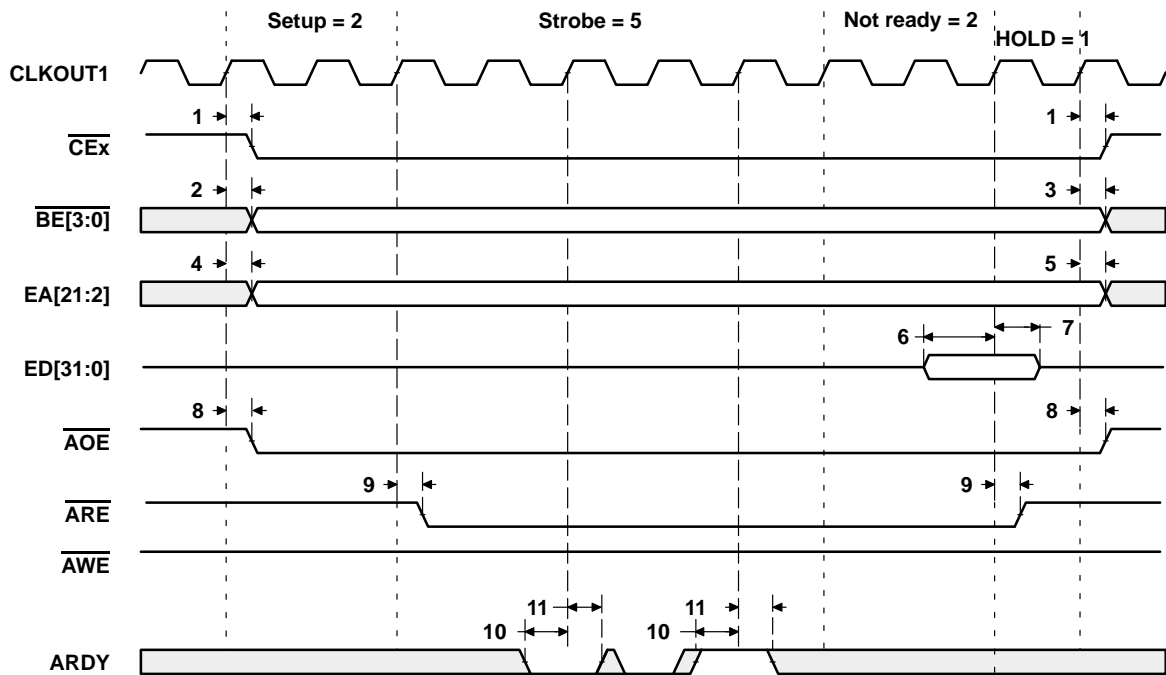
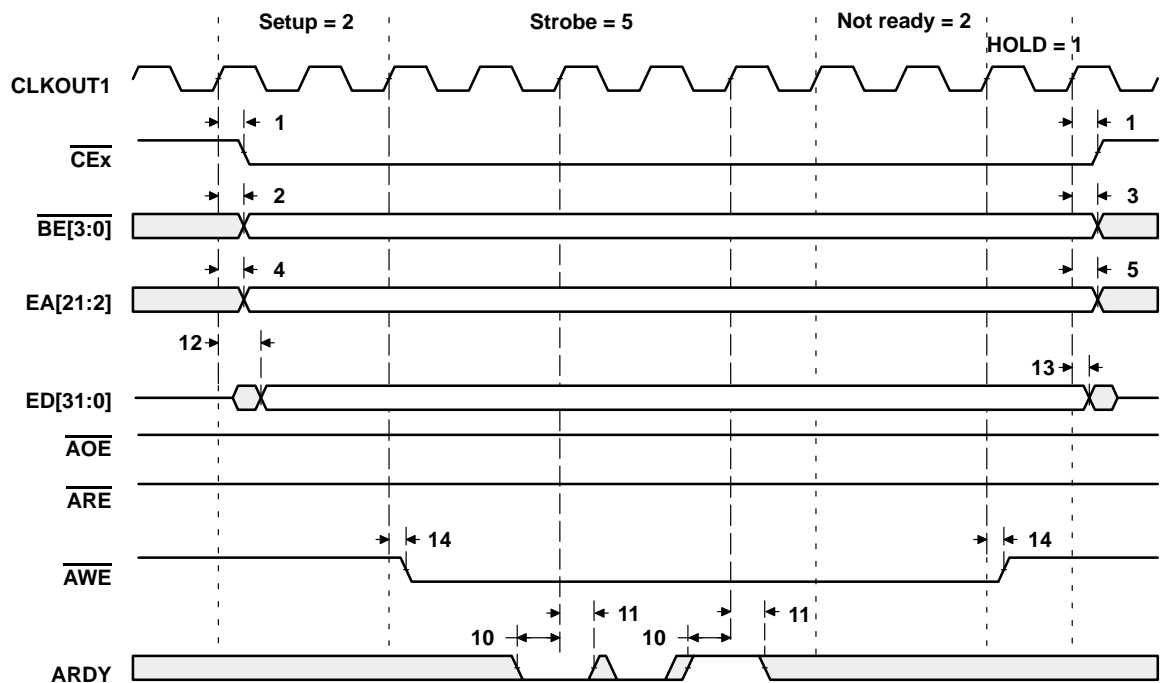

Figure 13. Asynchronous Memory Read Timing
Figure 14. Asynchronous Memory Write Timing
**timing requirements for asynchronous memory cycles† (see Figure 13 and Figure 14)**
**switching characteristics for asynchronous memory cycles‡ (see Figure 13 and Figure 14)**